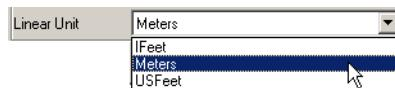

Figure 3-64. Linear Unit Lists
- Specify linear units (Figure 3-64).